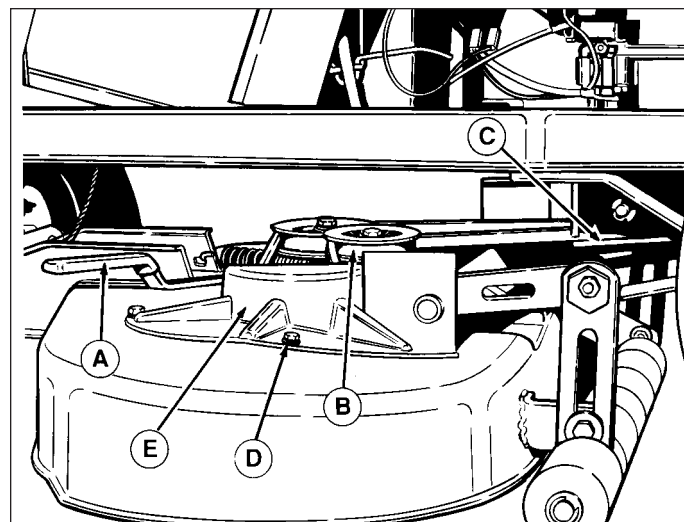

Figure 32. Mower Belt Replacement - 34"
See Figure 32.
2. If mower is not removed, place mower in lowest cutting position. Push idler pulley arm (A, Figure 32) away from you to relieve belt tension. Remove belt from idler pulley (B) and PTO pulley (C).
5. Install mower if it was removed, and install belt to PTO pulley (C, Figure 32). Push idler arm and install belt around idler pulley.